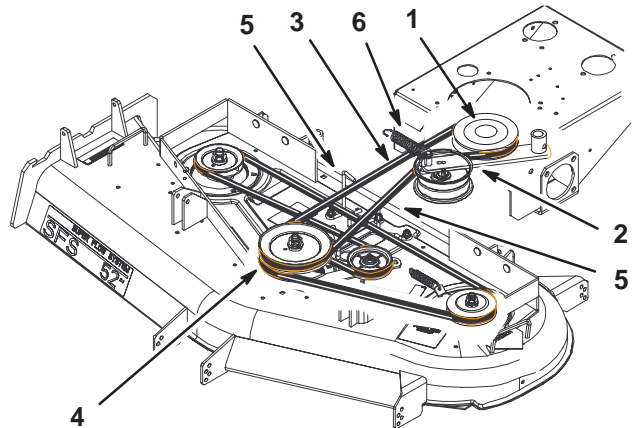

Figure 63
5. Remove the idler spring from idler arm. Remove the drive belt from the PTO engagement pulley and the center spindle pulley (Fig. 63).
6. Remove the worn drive belt (Fig. 63).
7. Install the new drive belt onto the PTO engagement pulley and the top groove of the center spindle pulley (Fig. 63).
8. Install belt onto idler pulley and then install idler spring (Fig. 63).
9. Adjust PTO drive belt guides an 1/8 in. from belt (Fig. 63).